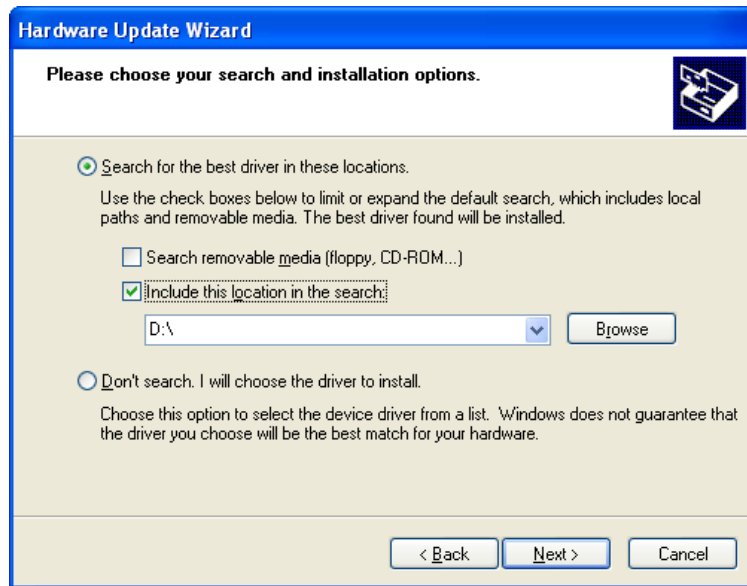

Figure 7-10: Search Options Window
Step 12: The following window (Figure 7-10) appears.